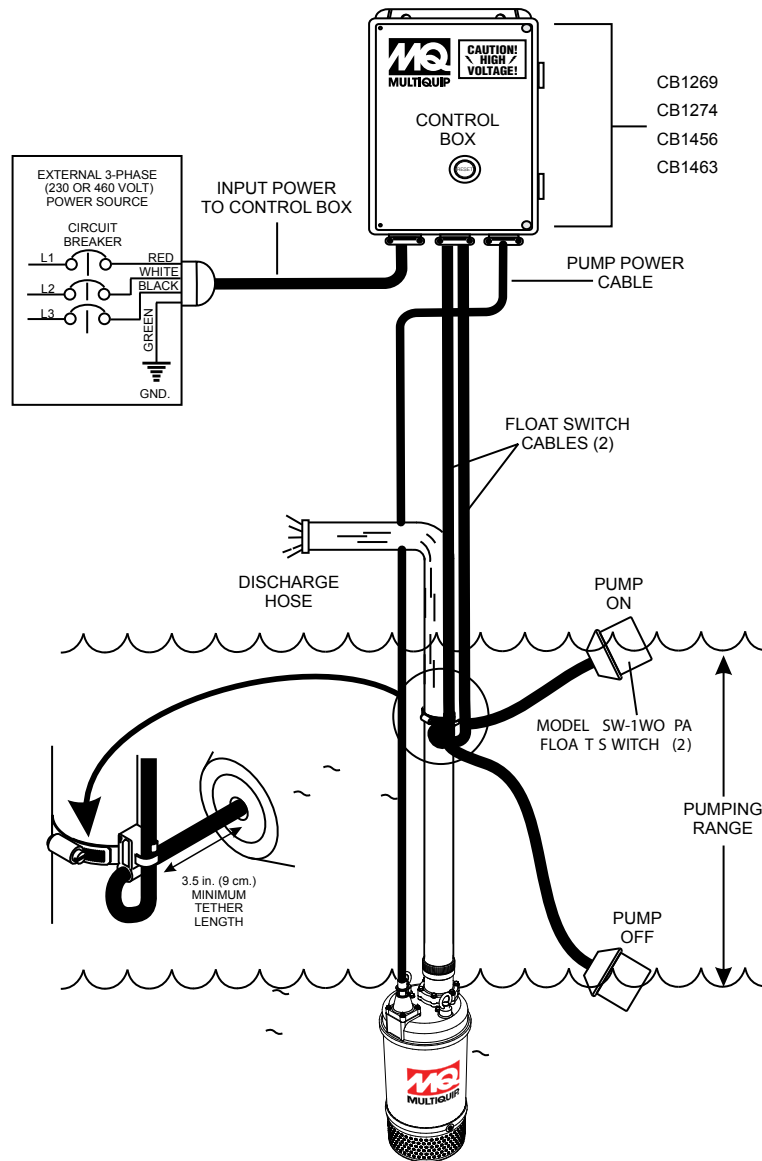

Figure 6. Float Switch Application
2. Place the cord into the clamp as shown in Figure 6.
3. Secure the clamp to the discharge hose as shown in Figure 6. **DO NOT** install cord under hose clamp.